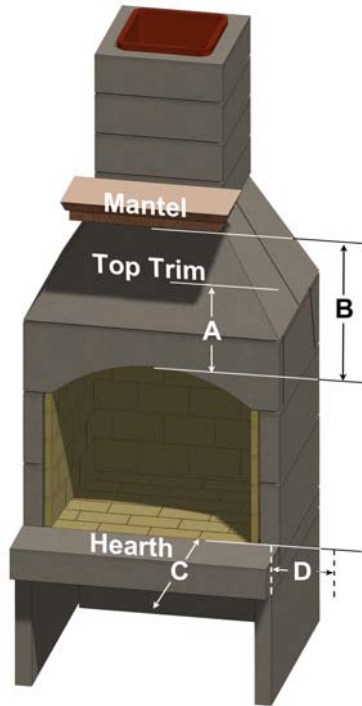

Figure 3. Clearances (Use with Table 2)
**Table 2: Clearances (See Figure 3)**
Select a location in the home plans or outdoor living area where all the minimum distances, as shown in Table 2 and Figure 3 can be met. Proceed as follows. Numbers in ( ) are item numbers from Table 1 and Figure 2. Ensure the base on which the fireplace is to be installed is a solid and level foundation and is composed of non-combustible material, such as concrete.
Q. Ensure the Table 2 and Figure 3 clearances and distances are maintained. Ensure that the hearth and flooring under and in front of the hearth are made of fully non-combustible materials, not just a non-combustible floor covering. When the hearth installation is complete, if the chimney complete and is not continuing through a roof or structure, you are ready to install the exterior finish. If the chimney will be continuing through a roof or structure proceed to Paragraphs 4.0 and 4.1 before beginning the finish application.
If installing a mantel and side trim, particularly if it is wood or other combustible materials, ensure the minimum distances shown in Table 2 and Figure 3 are met.